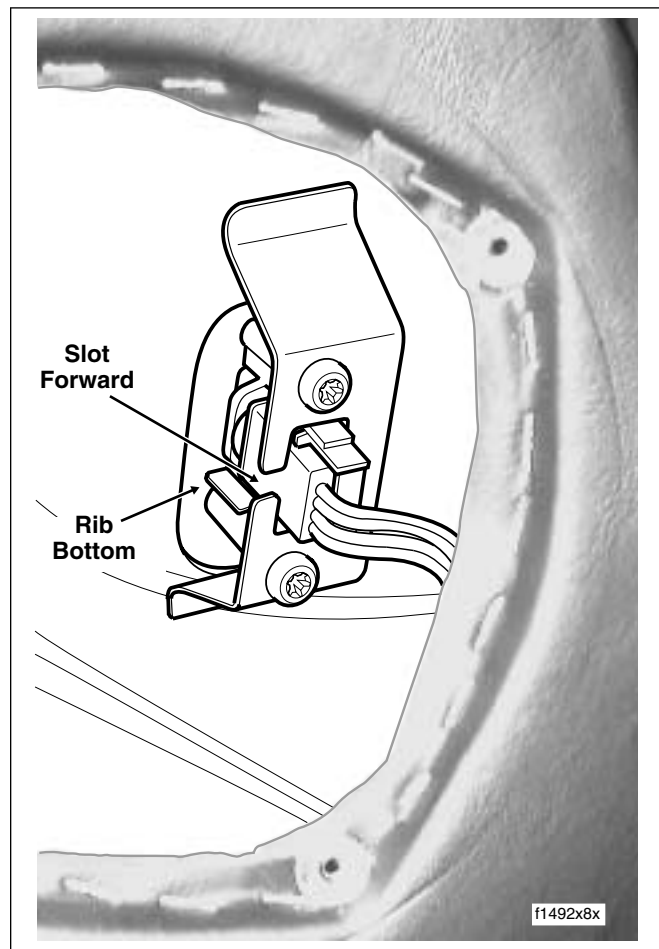

Figure 8-149. Install Passenger Switch Assembly (Right Side Speaker Box Shown)
6. Reaching into speaker box, align holes in bracket with holes in switch housing. Install two T25 TORX screws. See Figure 8-149.